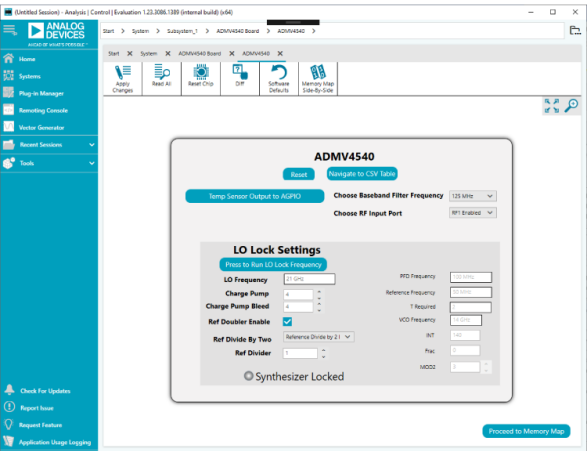

Figure 8. ADMV4540 Block Diagram in the ACE Software
7. The **ADMV4540 Block Diagram** in the ACE software then opens (see Figure 8). Note for optimal performance, it is recom-